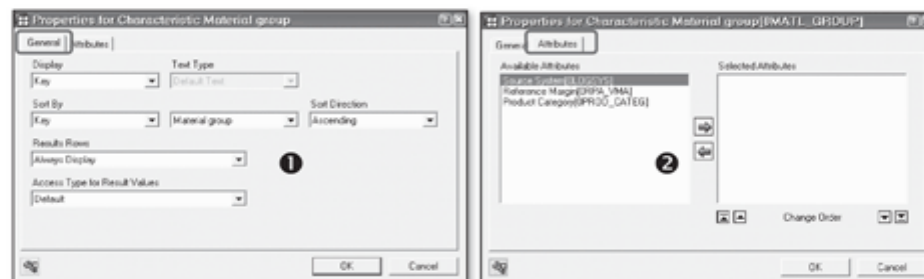

Figure 10.17 Maintaining Characteristic Properties
This opens up a properties dialog box where you can maintain the properties (Figure 10.17).
There are two tabs visible in Figure 10.17 for the material group characteristic: General and Attributes. However, if the selected characteristic has hierarchies defined for it, an additional Hierarchy tab is also displayed in the characteristic properties.
On the General tab page, you specify the properties related to display, sort order, result rows, or the access type for the values (❶ of Figure 10.17). The Attributes tab is